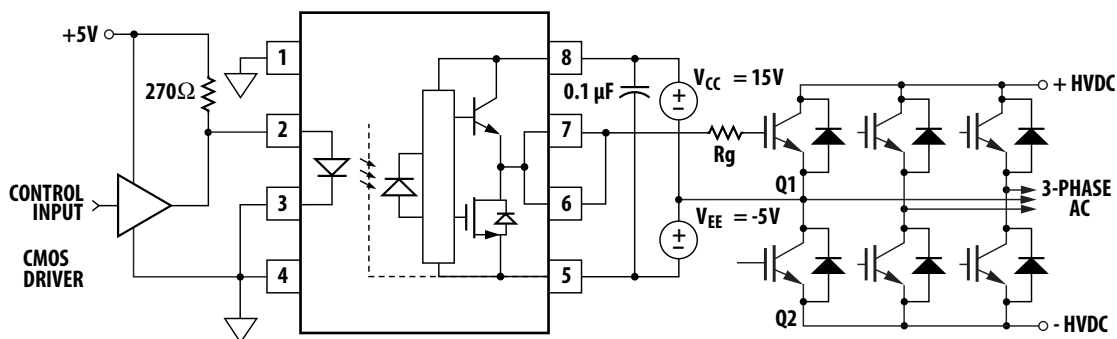

Figure 26. ACPL-312U typical application circuit with negative IGBT gate drive.
**Step 1:** Calculate  $R_g$  Minimum from the  $I_{OL}$  Peak Specification. The IGBT and  $R_g$  in Figure 26 can be analyzed as a simple RC circuit with a voltage supplied by the ACPL-312U.
For the circuit in Figure 26 with  $I_F$  (worst case) = 16 mA,  $R_G = 8 \Omega$ , Max Duty Cycle = 80%,  $Q_G = 500 \text{ nC}$ ,  $f = 20 \text{ kHz}$ :